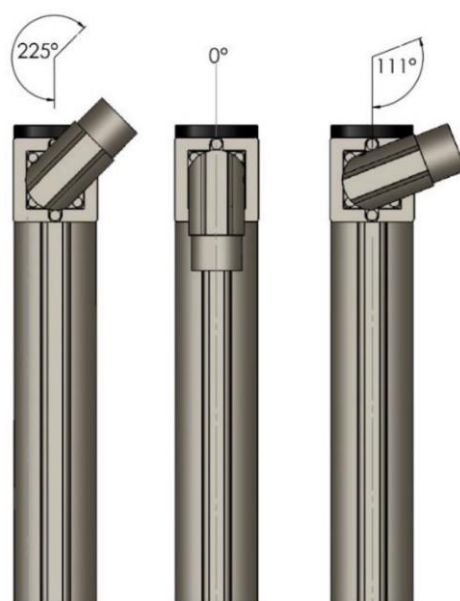

Fig. 14 Setting the C-motor connector (PDL30/40 modules)
If C-motor connector are provided for the PDL30/40 modules, the C-connector can be rotated in both directions (see Fig. 14). In this case, the maximum rotatability of the C-connector must be observed.
- If it is necessary to adjust the connector, always observe the maximum permissible rotatability (see Fig. 14).